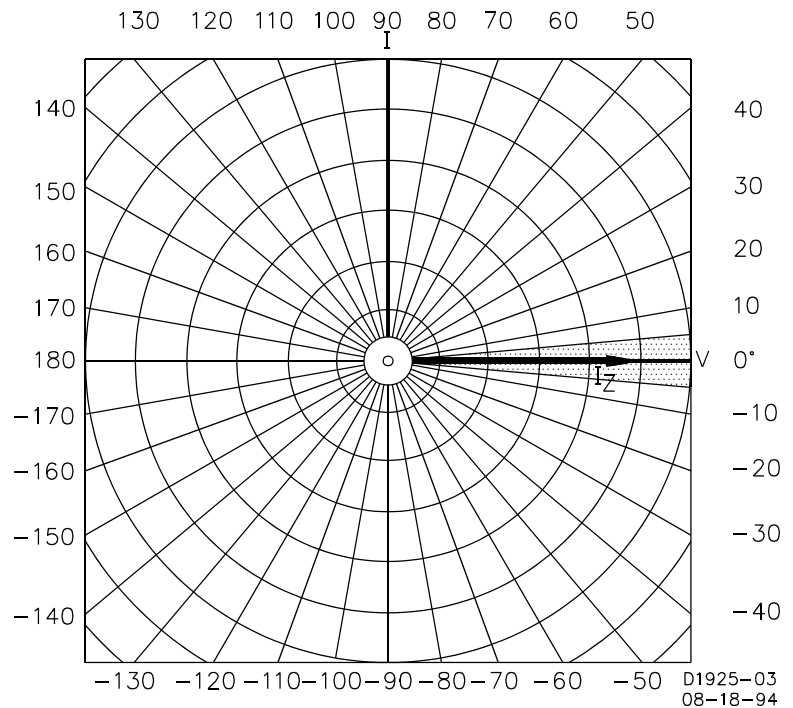

Figure 5-7. Minimum Region Of Operation
Step 8. Vary the phase angle of the input current through  $360^\circ$  and record the phase angles within which the INHIBIT LED is OFF. When shown on a polar plot, the result should be narrowed down to an included angle  $\leq 10^\circ$  (shown as the shaded region in Figure 5-7).